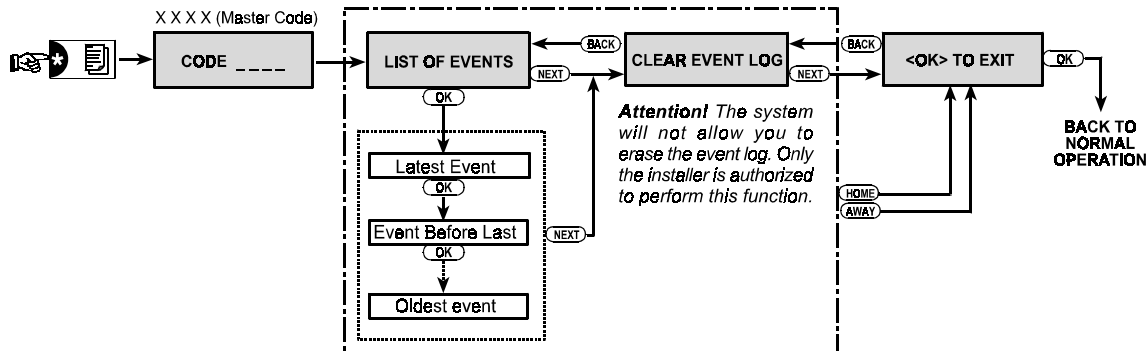

Figure 8. Using the Event Log
**Should you wish to get an overall view of using the log, refer to Figure 8. The chart there may even serve as your only guide to using the event log, instead of going through the written step-by-step procedure.**